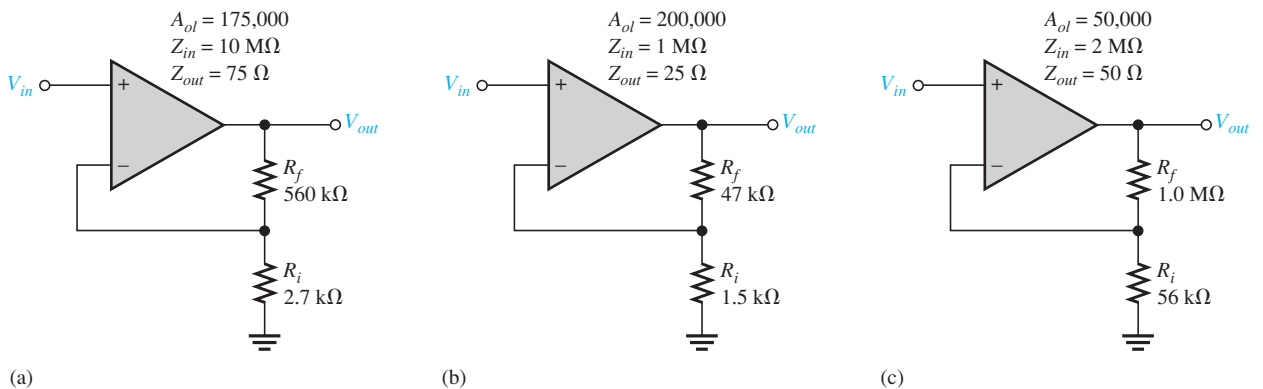

FIGURE 6–48
23. Repeat Problem 22 for each circuit in Figure 6–49.
24. Repeat Problem 22 for each circuit in Figure 6–50.